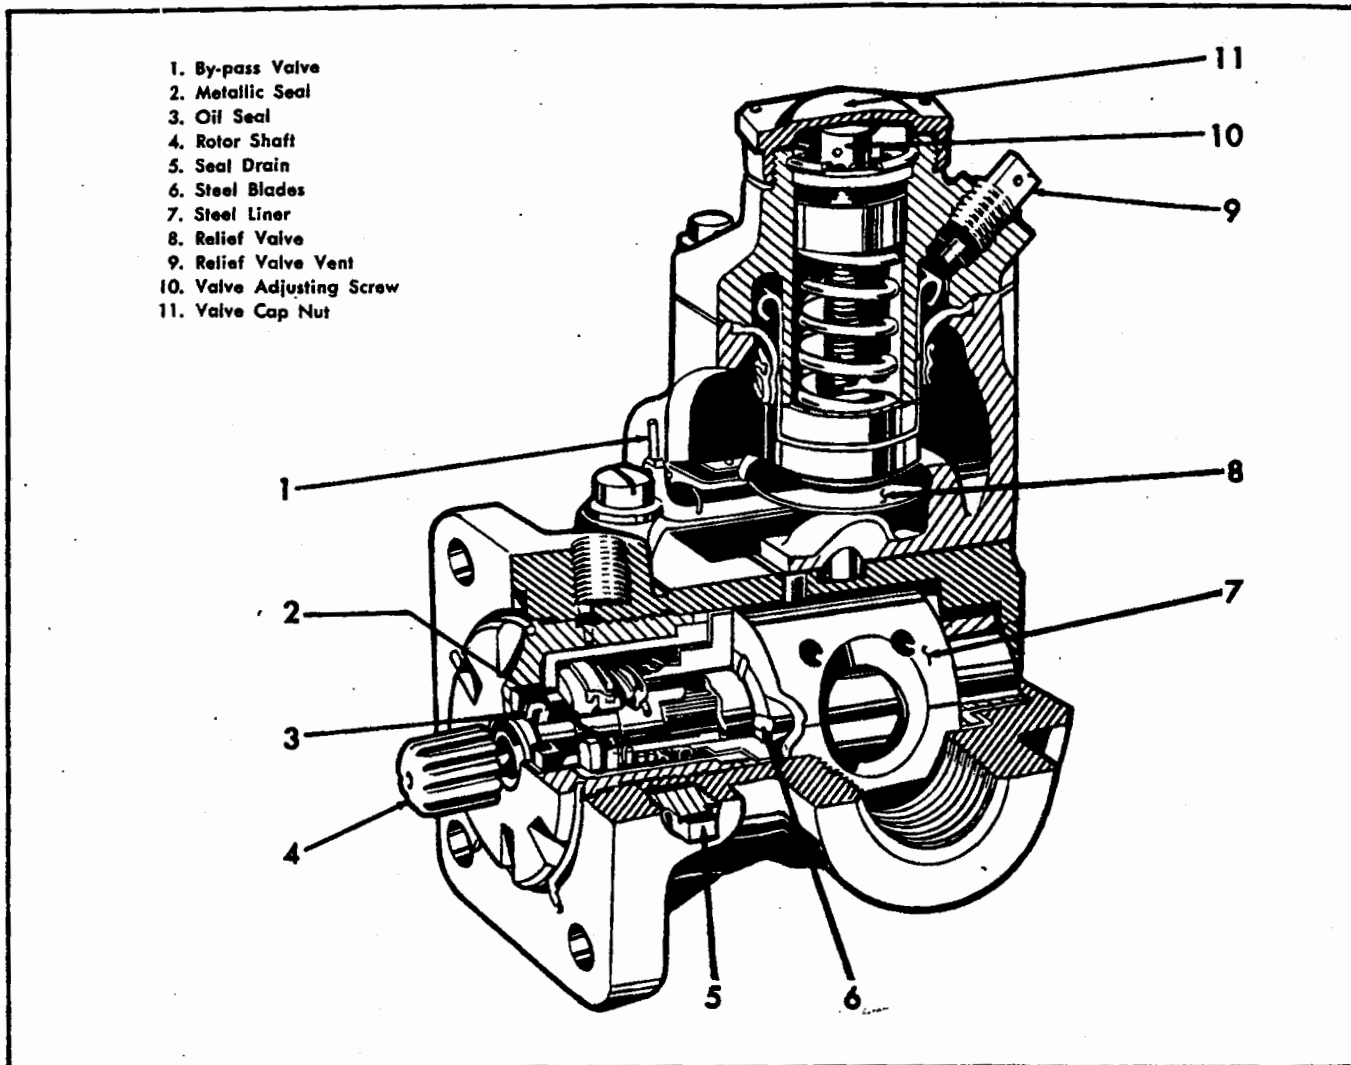

Figure 4-90. Main Engine-Driven Fuel Pump.
4-831. DESCRIPTION. (See figure 4-90.) The engine-driven fuel pump is a Navy Type H7E4, rotary, positive displacement pump. This pump, made in accordance with Specification AN-4102, is produced by several manufacturers. One of the pumps made in accordance with Specification AN4102 is manufactured by Thompson Products, Inc., Cleveland, Ohio, their number
4-835. TROUBLE SHOOTING. (Refer to figure 4-90.)
e. (See figure 4-90.) If discharge pressure adjustment is necessary, remove the hex valve cap nut (11) and insert a screwdriver in the slot to lift the valve adjustment screw lever clear of the locking slots on the thrust washer.